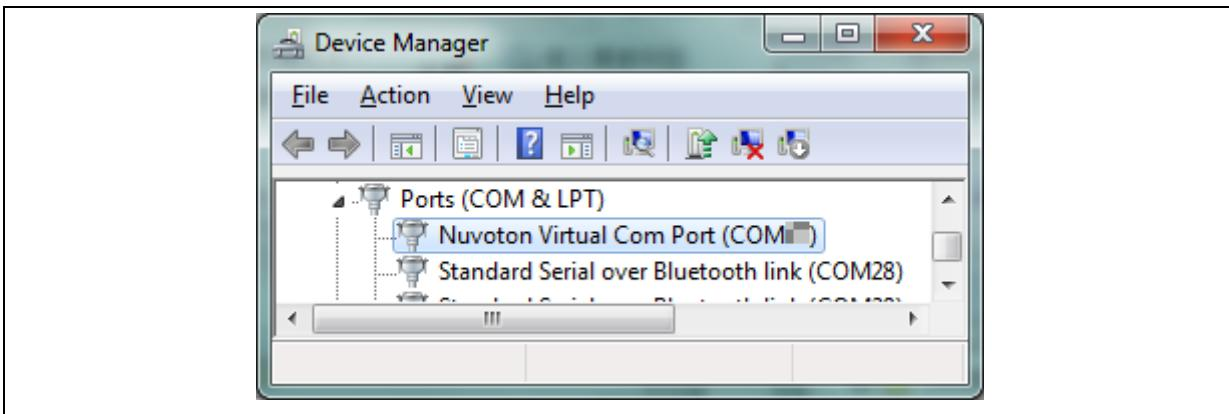

Figure 3.4-3 Device Manager
3. Find the "Nuvoton Virtual COM Port" on the Device Manager as Figure 3.4-3.